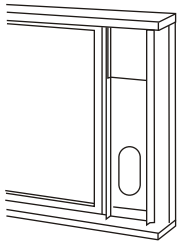

Fig.14
3. Cut the foam seal(adhesive type) to the proper length and attach it on the top of the window. Shown as in Fig.14.